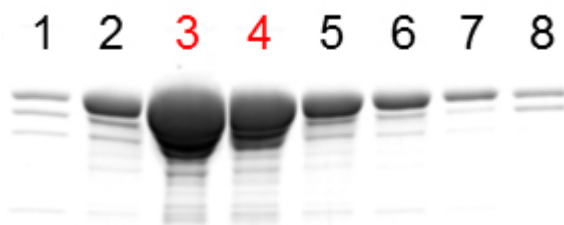

Figure 1. Analysis of purified Drp1 by SDS-PAGE and Coomassie Brilliant Blue staining
19. Identify fractions containing Drp1 proteins using SDS-PAGE and Coomassie Brilliant Blue staining. Combine peak fractions (typically fractions #3 and 4) (Figure 1) and mix them with 15 ml of lysis buffer without imidazole.